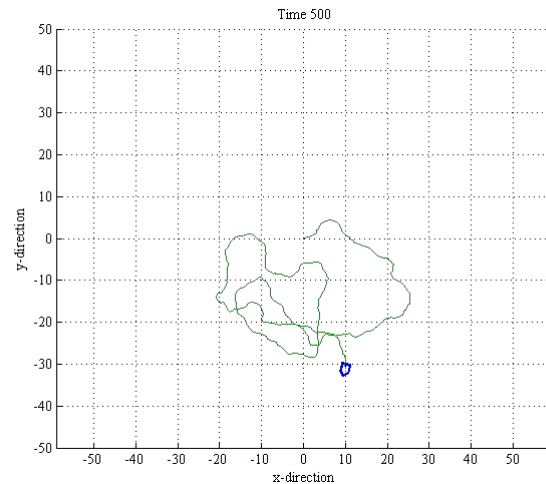

Figure 1 Car movement according to random commands.
6. Update the car graphic handle and trace handle. Your figure may look as Figure 1.